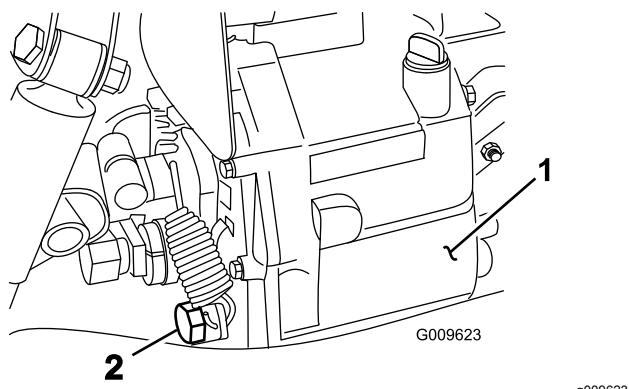

Figure 66
- Remove the drain plug from the side of the reservoir, and let the hydraulic fluid flow into a drain pan (Figure 66).